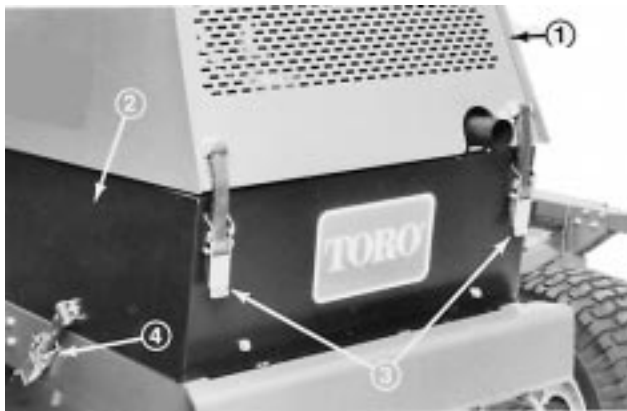

Figure 1
1. Unlatch the hood and left hand engine side panel (Fig. 1). Raise and prop hood open and remove the left side panel. Make sure hood prop is secured in one of the mounting brackets on hood.
- Unlatch hood and raise and prop it open (Fig. 1). Make sure hood prop is secured in one of the mounting brackets on hood.